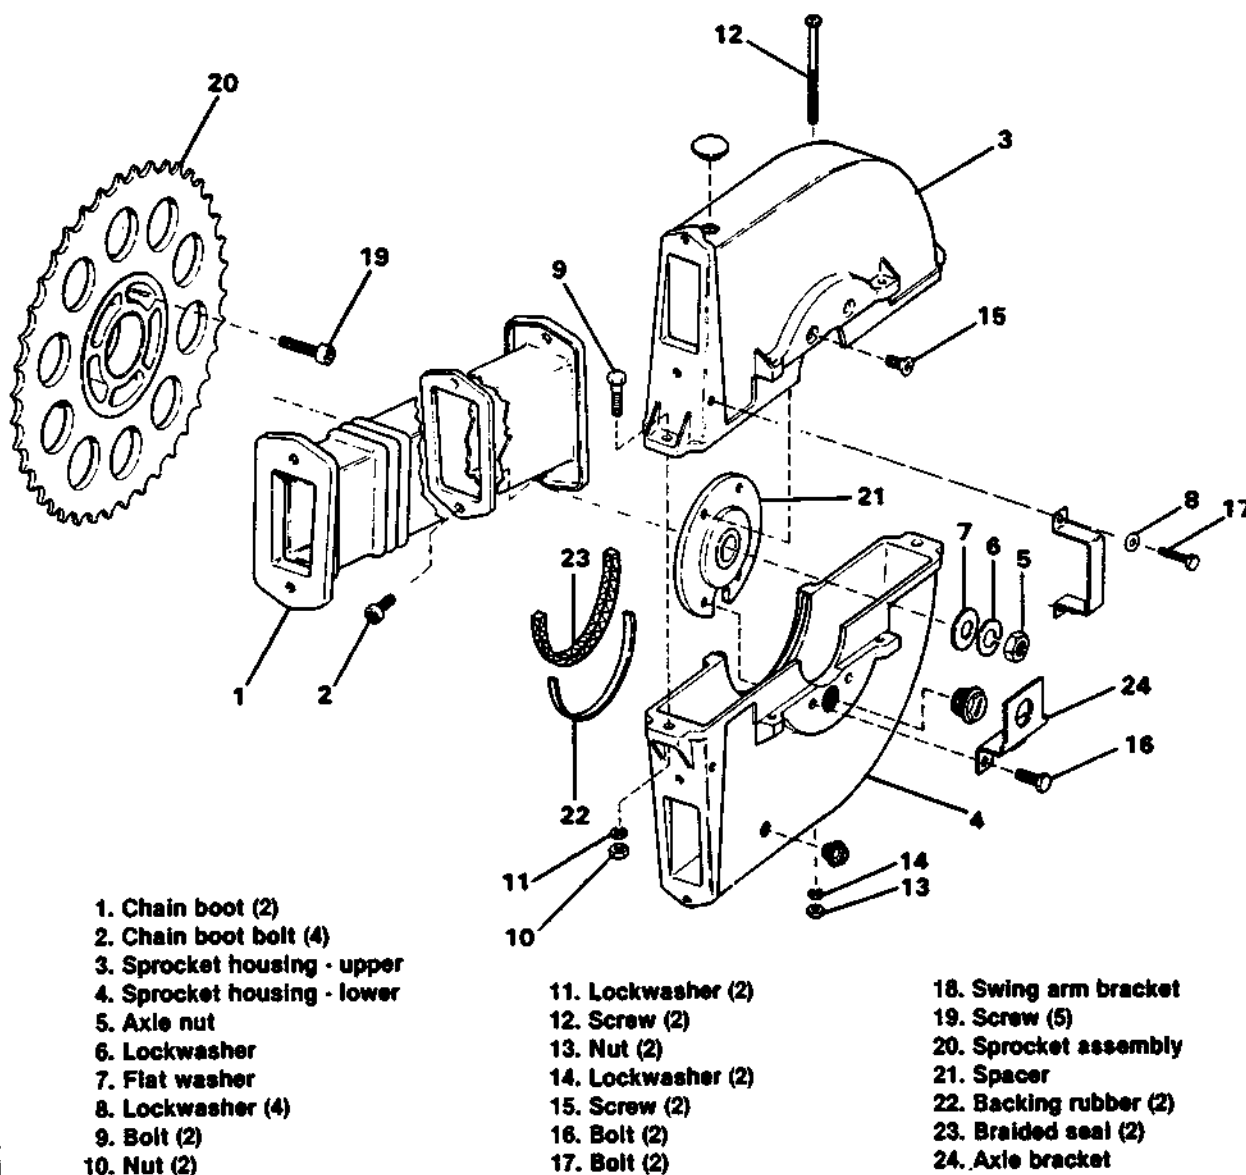

Figure 4. Rear Wheel Sprocket & Housing — Exploded View
2. See Figure 4. Remove the four bolts (2) fastening the upper and lower chain boots (1) to the sprocket housing (3 and 4).
4. See Figure 4. Unwrap the rear portion of the chain from the wheel sprocket. Remove the upper bolt (17) and washer (8) and bend the swing arm bracket (18) away from the swing arm. Remove the axle nut (5), lockwasher (6) and washer (7). Remove the axle and wheel with the sprocket housing attached.
5. See Figure 4. Remove the two sprocket housing bolts (9), nuts (10) and lockwashers (11). Remove the two screws (12), nuts (13) and lockwashers (14). Remove the two screws (15), bolts (16) and axle
6. See Figure 4. Remove the five sprockets screws (19) and sprocket assembly (20).
10. See Figure 4. Install new SPROCKET ASSEMBLY (20), Part No. 41522-79A, on the wheel. Lubricate the five screws (19) with oil and alternately tighten all of them to 65-75 ft-lbs torque. Be sure the wrench is not cocked in the screw head giving a false torque reading.
11. See Figure 4. Remove the seals (23) from the sprocket housing halves and completely clean the housing removing all dirt and old sealant. Insert the new BACKING RUBBER (22), Part No. 25423-80, in the bottom of the housing grooves and trim the ends flush with the housing surface. Insert the new BRAIDED SEAL (23), Part No. 25414-80, in the groove on top of the backing rubber. Trim the ends so they project 1/32" above the housing surface.
12. See Figure 4. Insert the spacer (21) into the sprocket hub (20). Apply a coating of an RTV silicone sealant to the mating surface of the housing halves (3 & 4) and spacer (21) and ends of the seals (23). Attach the lower sprocket housing (4) and the axle bracket (24) to the spacer (21) with the two bolts (16). Be sure the notch in spacer aligns with the plug hole in the lower sprocket housing as shown in Figure 7.
13. See Figure 4. Reassemble the upper sprocket housing (3) to the spacer (21) and lower sprocket housing (4) using the two screws (15), the two bolts (9), lockwashers (11) and nuts (10) and the two screws (12), lockwashers (14) and nuts (13).
14. See Figure 4. Install the wheel assembly on the motorcycle, inserting the axle from the RIGHT side of the swing arm. Be sure the brake disc is between the caliper brake pads and the sprocket housing faces forward. Assemble flat washer (7), lockwasher (6) and nut (5) to left end of the axle finger tight.
17. See Figure 4. Apply a coating of 3M 750 sealant to the rubber boots (1). Fasten the boots to the housing with the four bolts (2). Alternately tighten the bolts to 4-6 ft-lbs torque. Reposition swing arm bracket (18) and replace bolt (17) and washer (8).